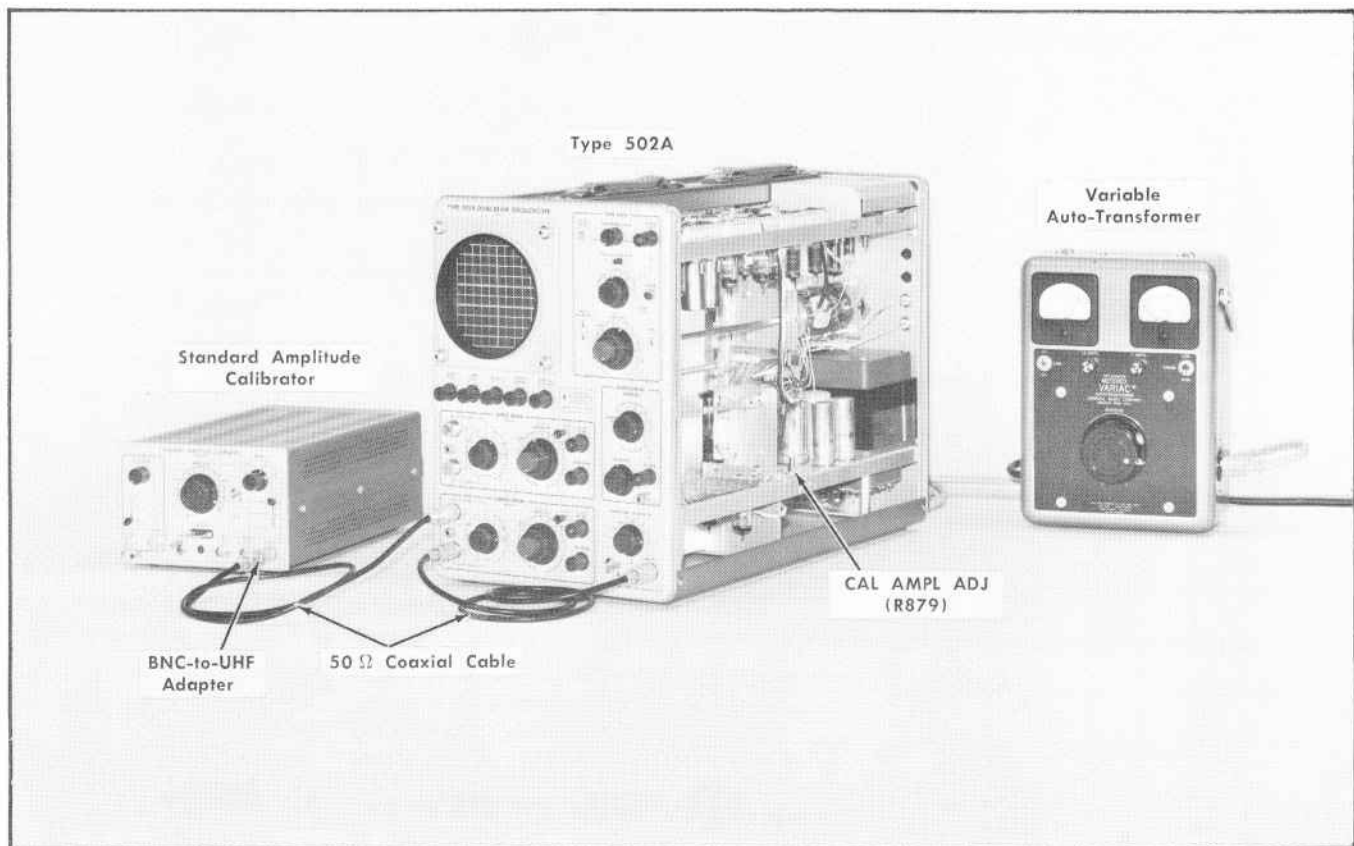

Fig. 6-38. Test equipment setup for Calibrator adjustment and checks (steps 41 through 44).
- Connect the equipment as shown in Fig. 6-38.